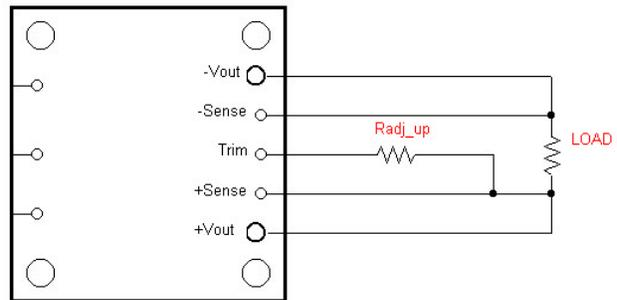

Figure 3. Radj_up Setup to increase Output Voltage.
- For Output Voltage Adjustment setup, refer to Figures 3 and 4. For $V_{IN} < 39V$, the output can only be trimmed up 5% and the minimum OVP clamp is reduced to 12.75V.
To adjust Vo to a higher value, please refer to Figure 3. An external resistor, **Radj_up** should be connected between the Trim Pin and the +Sense Pin. From Equation (1), Radj_up resistor can be determined for the required output voltage increment.